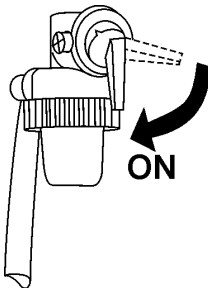

Figure 13. Engine Fuel Valve Lever (ON)
1. Place the engine fuel valve lever (Figure 13) in the **ON** position.